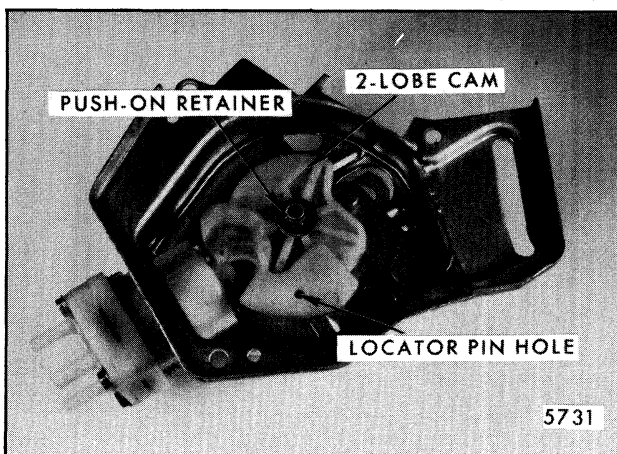

Fig. 2-135-Drive Cam
Remove push-on retainer and slide cam off shaft (Fig. 2-135). New retainers are provided in cam service packages.
- c. To reassemble, position pulse relay on switch base locator pins, rotate drive cam counter-clockwise to position shown in Figure 2-135, then secure the complete assembly to washer pump frame with the attaching screw.
- a. Follow disassembly steps under items 2, 3 and steps c and d under item 4.
- b. Bend or chisel off the four bent over tabs that secure the coil mounting bracket to the base (Fig. 2-135).